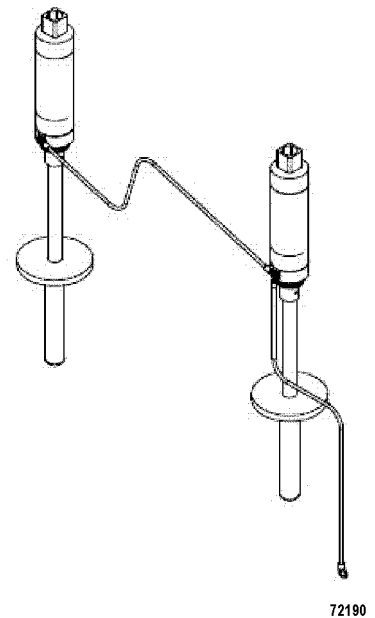

FIGURE 20-5. GROUNDING STICKS
- Grounding stick pair (Figure 20-5)